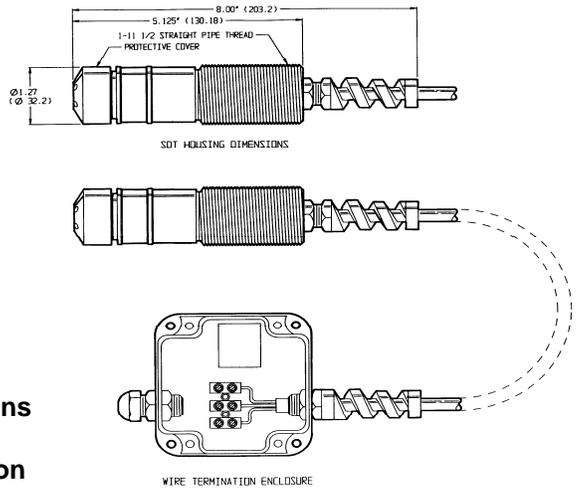

Figure 6.
A wire termination enclosure is attached to the free end of the SDT-II cable (see Figure 6). It protects the cable breather tube and vents it to atmospheric pressure through a small hole in the enclosure.
4. Insert the cable through the smaller strain relief bushing, and connect to the terminal strip (see Figure 6), user current loop (+) to red, negative (-) to black, and shield to shield of the SDT II cable.